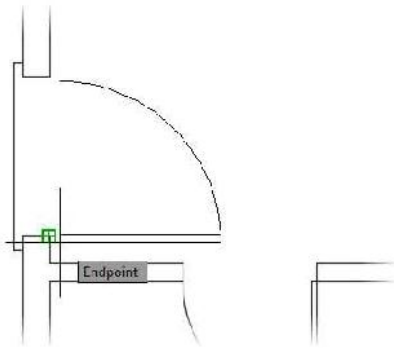

FIGURE 7.11: Placing the A-DOOR-36IN (A-DOOR-0915) block with the Endpoint object snap
5. When the Endpoint marker appears at the jamb line's lower-right endpoint (shown in Figure 7.11), click.